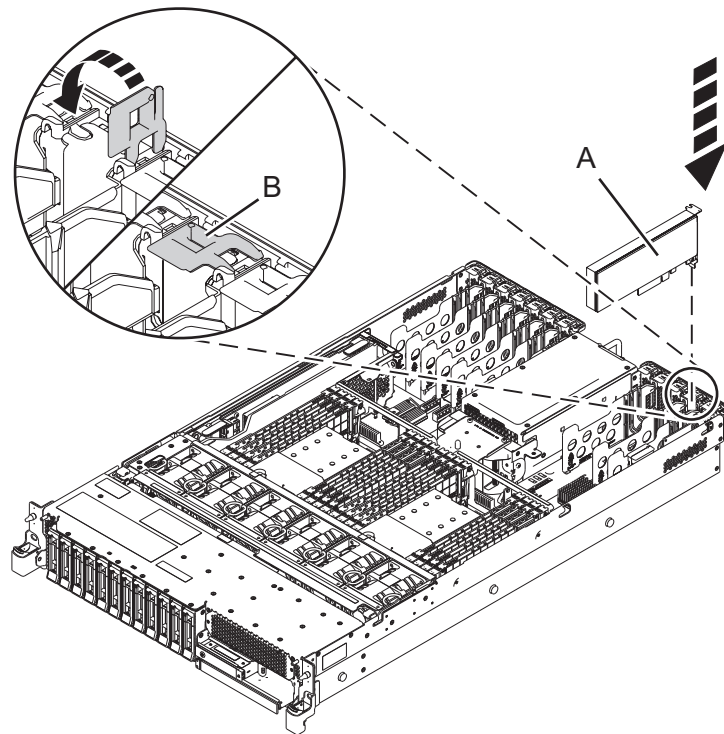

Figure 22. Installing or replacing a PCIe adapter in the 5148-21L, 5148-22L, 8247-21L, 8247-22L, 8284-21A, or 8284-22A system
7. If the adapter latch (**B**) at the target slot is not already in the open position, pull the latch into the open position by rotating the latch outwards from its clip on the back of the system, as shown in Figure 22.
8. Carefully grasp the adapter by its top edge or tailstock, and align the adapter with the slot and its connector on the system backplane (**A**), as shown in Figure 22.
10. To lock the adapter in its slot, rotate the adapter latch (**B**) in the direction that is shown in Figure 22.